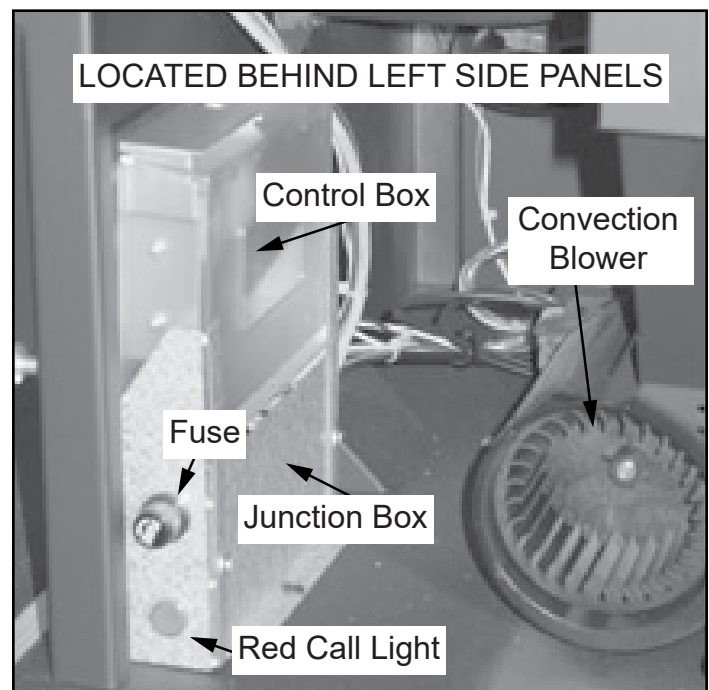

Figure 11.3
5. Look through the hole in the left lower side panel and you will see the red call light on the control box will be on (**Figure 11.3**). This indicates the thermostat is calling for heat. On the
3. Occasionally the appliance may run out of fuel and shut itself down. When this happens, the red call light will be on (**See Figure 11.3 on page 11**).